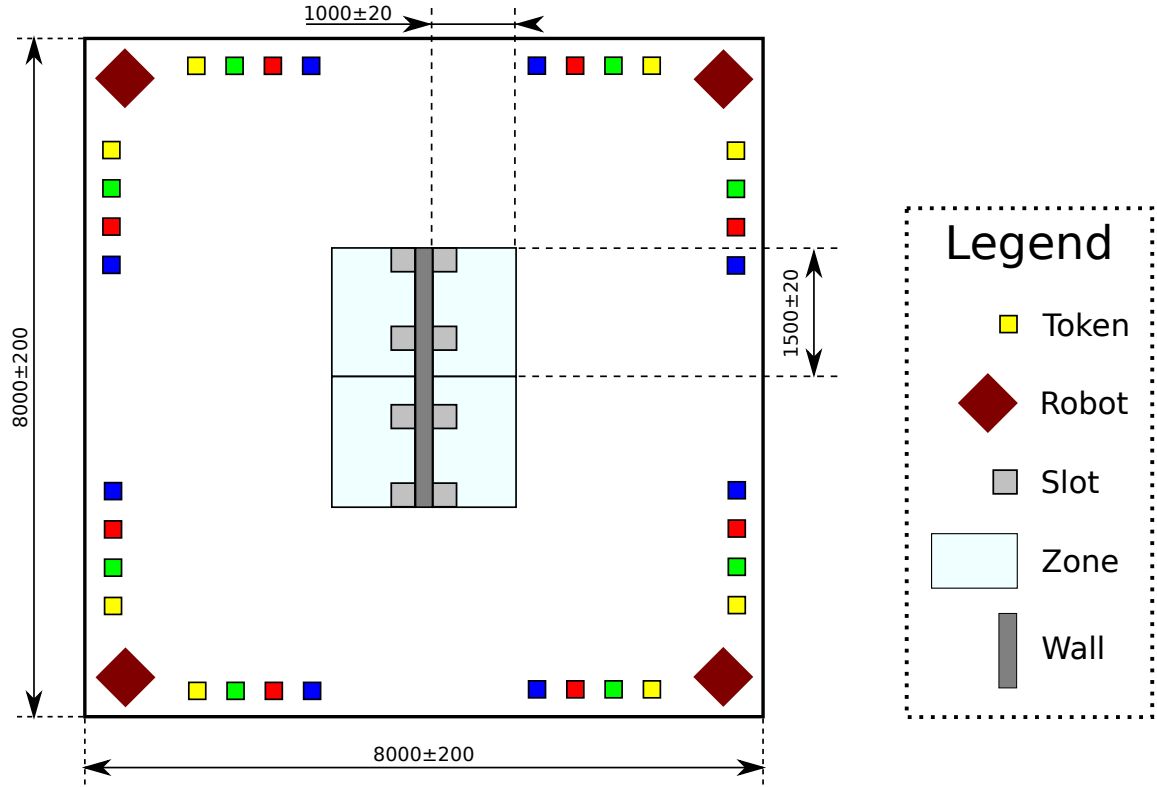

Figure 3: A bird's-eye view of the arena. All dimensions are in millimetres.
- 3.4.1 There are four zones in the centre of the arena. The arrangement of these zones can be seen in figure 3, and is shown in more detail in figure 6.